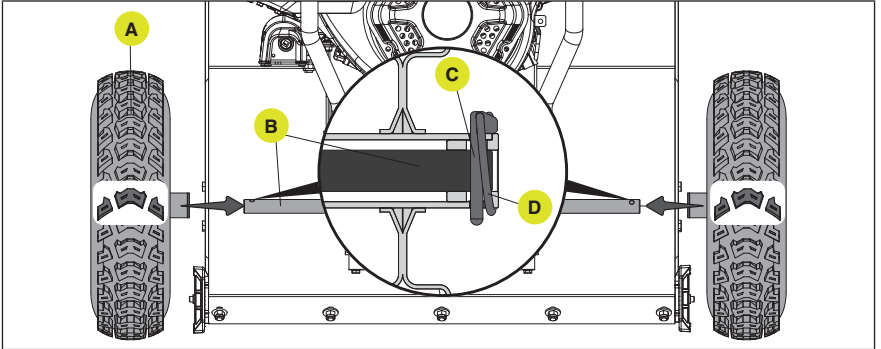

Figure 4
Slide the wheel (A) onto axle (B). Tread pattern should face forward. Place axle pin (C) into wheel. The axle has a center hole to attach the wheel to the axle (which connects to the drive train). Once inserted, fold ring (D) around axle to hold in place (Fig. 4).